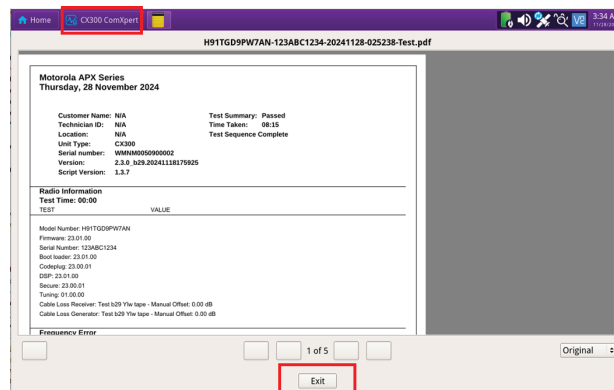

Figure 8
4. To close the .pdf and return to Autotest Select **"Exit"**. (Fig.8)